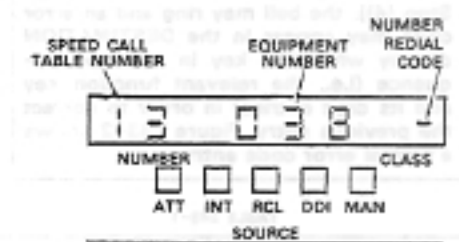

Figure 243-2 Typical Entry Display
2. After digit entries are made (e.g., Step (4)), the bell may ring and an error code may appear in the DESTINATION display when the key in the next sequence (i.e., the relevant function key and its digit entries) in order to correct the previous entry. Figure 243-2 shows a typical error code entry.